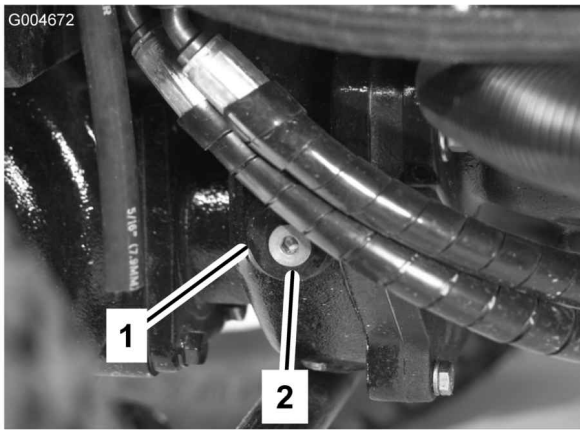

Figure 13
2. Remove the check/fill plug from the left side of the gear box (Figure 13) and make sure that lubricant is up to the bottom of the hole. If the level is low, add enough lubricant to bring the level up to the bottom of the hole.